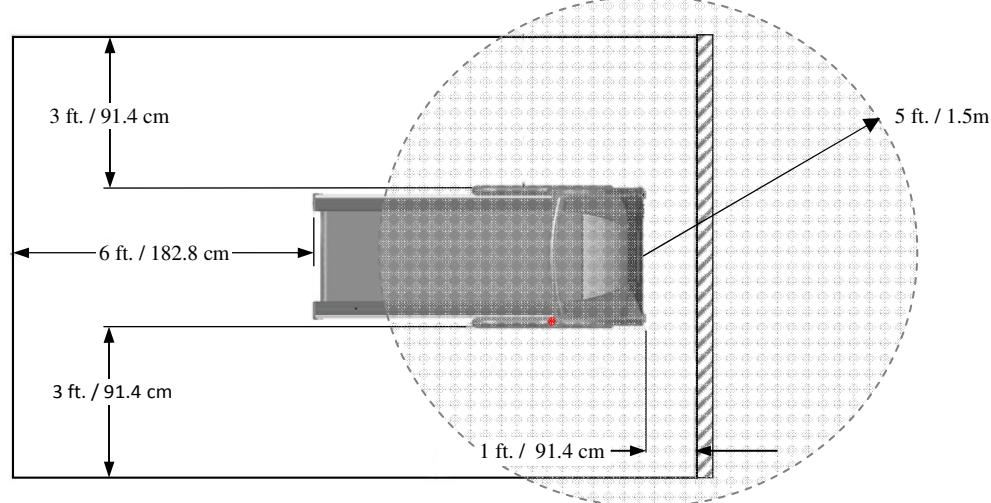

**Figure 5-3**
5. Attached the console to the console supports with the hardware supplied in the order shown in Figure 5-3. Ensure the rubber pads are placed between the steel mounting surface and the back of the console. Tighten bolts evenly.
6. Position the black cover and align the holes in the side of the mount with those in the cover. Secure cover with (4) #10-32 screws.